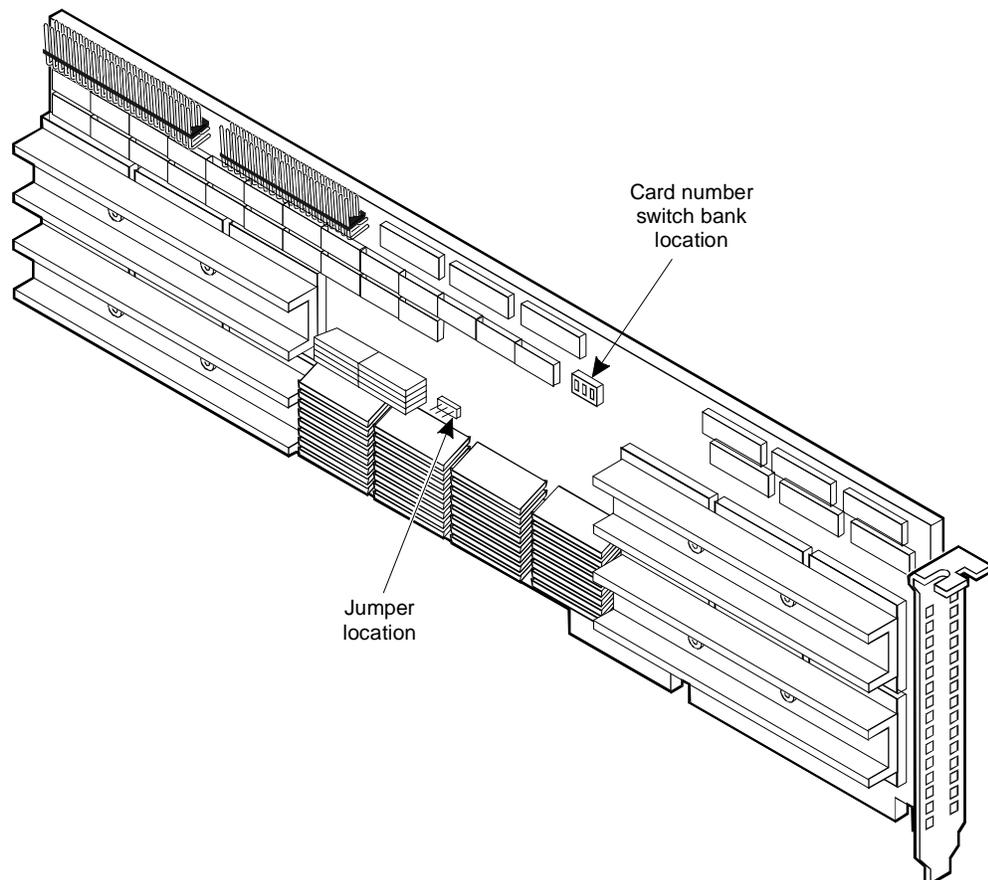
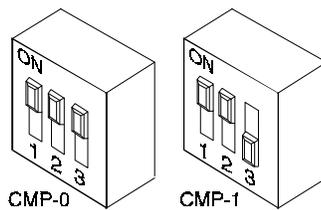

Figure 7-20. Companion (AYC7) Circuit Card
Figure 7-21. Switch Settings for the Companion Card
- AYC7 — see Figure 7-20
You must set one switch bank on the AYC7 circuit card. Figure 7-20 shows the location of the switches. Figure 7-21 shows the required switch settings for CMP-0 and CMP-1.
Figure 7-20 shows the location of the jumper on the AYC7 CMP circuit card. This jumper is preset at the factory. However, before you install the card, verify that it is set as shown in Figure 7-22.